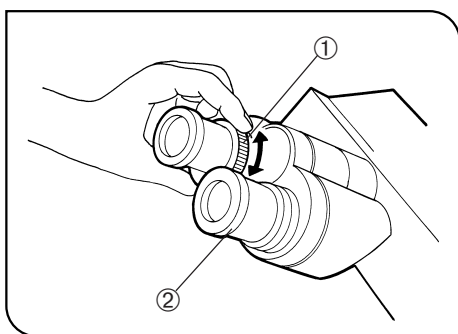

Fig. 25
2 Adjusting the Diopter (Figs 25 & 26)
2. Looking through the eyepiece with the diopter adjustment ring ①, turn it to focus on the specimen. (Fig. 25)
1. Looking through the right eyepiece with your right eye, turn the top of the eyepiece ② until a clearly defined double crossline can be seen in the field of view. (Figs. 25 & 26)
3. Looking through the left eyepiece with your left eye, turn the diopter adjustment ring ① to focus on the specimen.